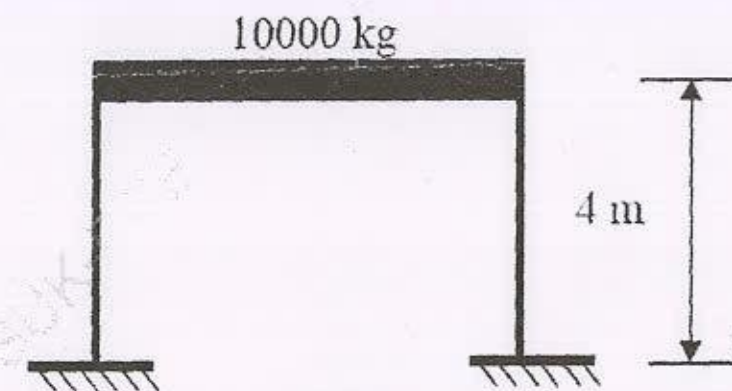

Fig 1.
b) Find the natural frequency and natural period for the building frame shown in the fig. 1. During test the frame is given 40 mm initial lateral displacement and released from the rest to vibrate freely. Find the displacement after 4 seconds and number of cycles when amplitude reduced to 1/20 of maximum. Consider 10% damping. Take  $EI_{\text{Column}} = 1.5 \times 10^{12} \text{ N.mm}^2$ ,  $EI_{\text{Beam}} = \infty$ . [10]
- b) The bent ABC is subjected to lateral load of 10kN as shown in the fig.1 below. Determine the reactions at support C by strain energy method. Draw SFD and BMD [12]
(FIG.1)